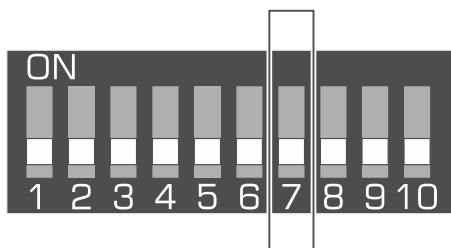

Fig. 5. Switch for enabling / disabling the support of the unregistered ARF-200 tester.
**Switch 7** (Fig. 5) is used to enable / disable the support of the ARF-200 tester that has not been registered to the controller: